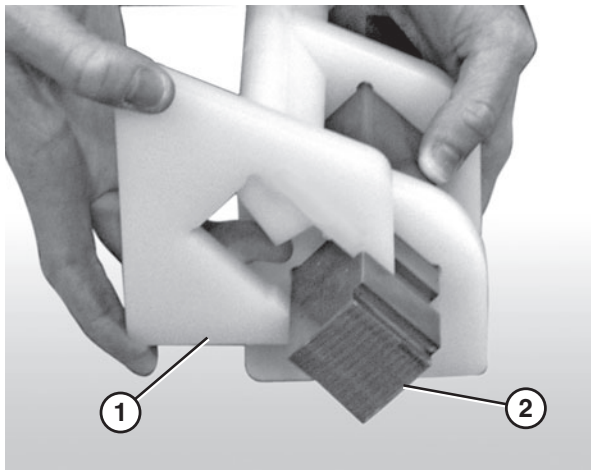

Figure 86
3. Attach the nose bar tracking pucks (**Figure 86, item 1**) to the nose bar drive post (**Figure 86, item 2**).